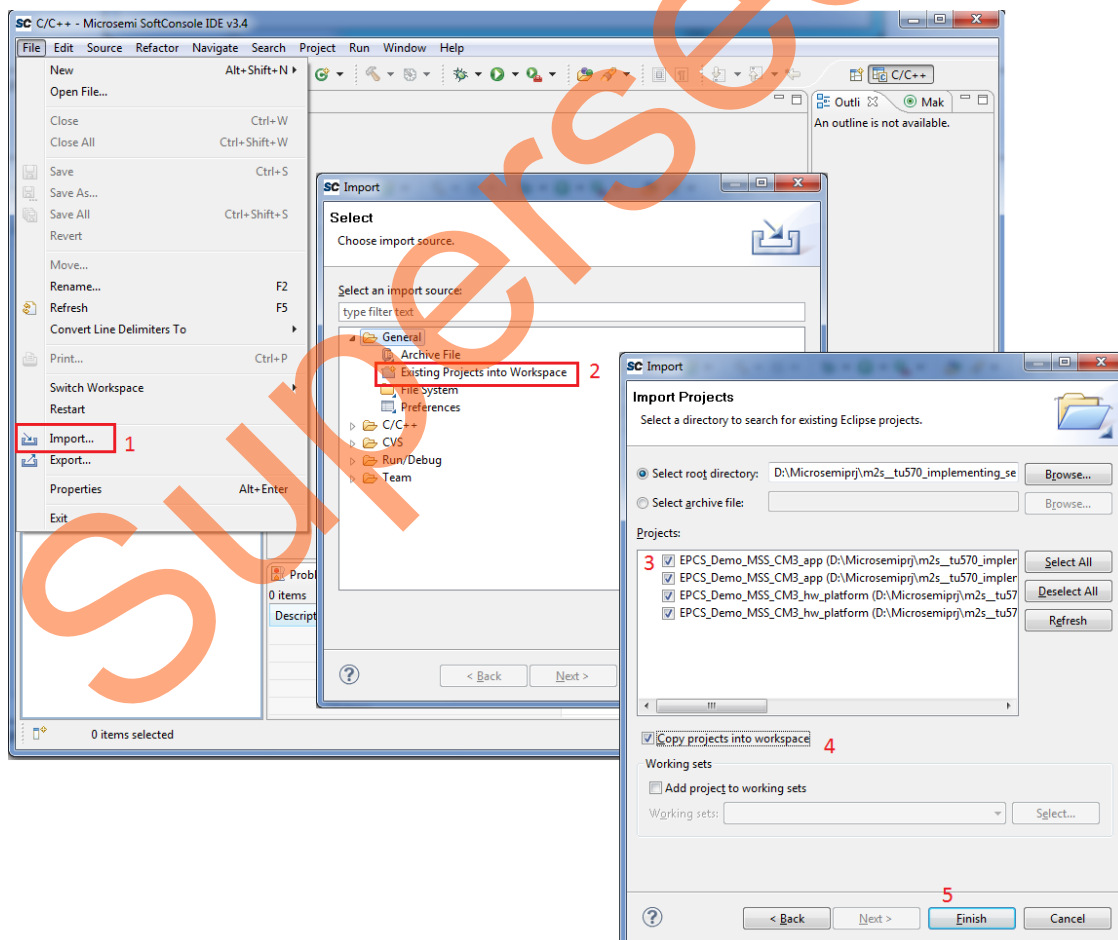

Figure 51 • Import the Existing Project into Workspace
- Import the existing project into the workspace, as shown in Figure 51.